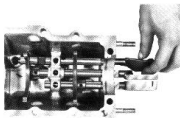

Fig. 8-24
4. First, remove the reverse gear shifting fork shaft and then other shafts in order. As for the reverse shaft, it should be pulled out in such a manner that the slotted portion for reverse gear shifting lever will not be aligned with the locating ball and spring positions. As shown in the Fig. 8-24, turn the shaft before pulling it out, and then remove it. (take care not to allow the balls to spring out.)